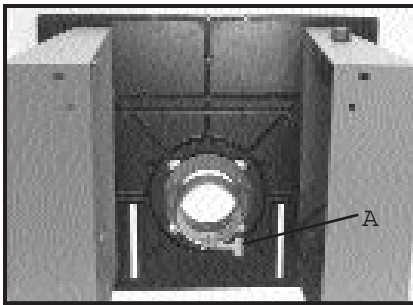
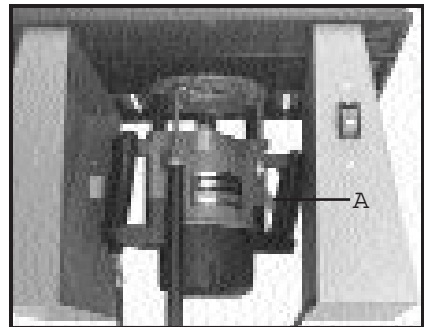

Fig. 6
Fig. 7
4. Mount the router base (see Fig. 6 for non-plunge routers, or Fig. 7 for plunge routers), to the underside of the table using screws from the hardware package (routers with less than 2 horsepower use three #10-24 x $3\frac{3}{4}$ " long screws, routers with more than 2 horsepower except Model 7529 use four $5\frac{5}{16}$ "-18 x $1\frac{1}{4}$ " screws, and Model 7529 uses three 10-24 x $1\frac{11}{16}$ " screws). Orient the router base directly below the large hole in the table, with the clamp screw (A) Fig. 6, (or the plunge locking lever (A) Fig. 7, on plunge models), toward the rear of the table.